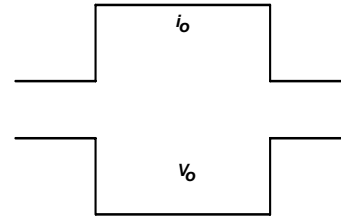
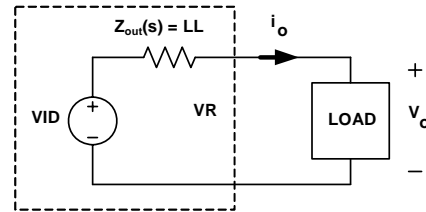

FIGURE 17. DESIRED LOAD TRANSIENT RESPONSE WAVEFORMS
FIGURE 23. VOLTAGE REGULATOR EQUIVALENT CIRCUIT
Assuming the compensator design is correct, Figure 17 shows the expected load transient response waveforms if  $C_n$  is correctly selected. When the load current  $I_{core}$  has a square change, the output voltage  $V_{core}$  also has a square response.
Figure 17 shows the desired load transient response waveforms. Figure 23 shows the equivalent circuit of a voltage regulator (VR) with the droop function. A VR is equivalent to a voltage source (= VID) and output impedance  $Z_{out}(s)$ . If  $Z_{out}(s)$  is equal to the load line slope LL, i.e. constant output impedance, in the entire frequency range,  $V_o$  will have square response when  $I_o$  has a square change.